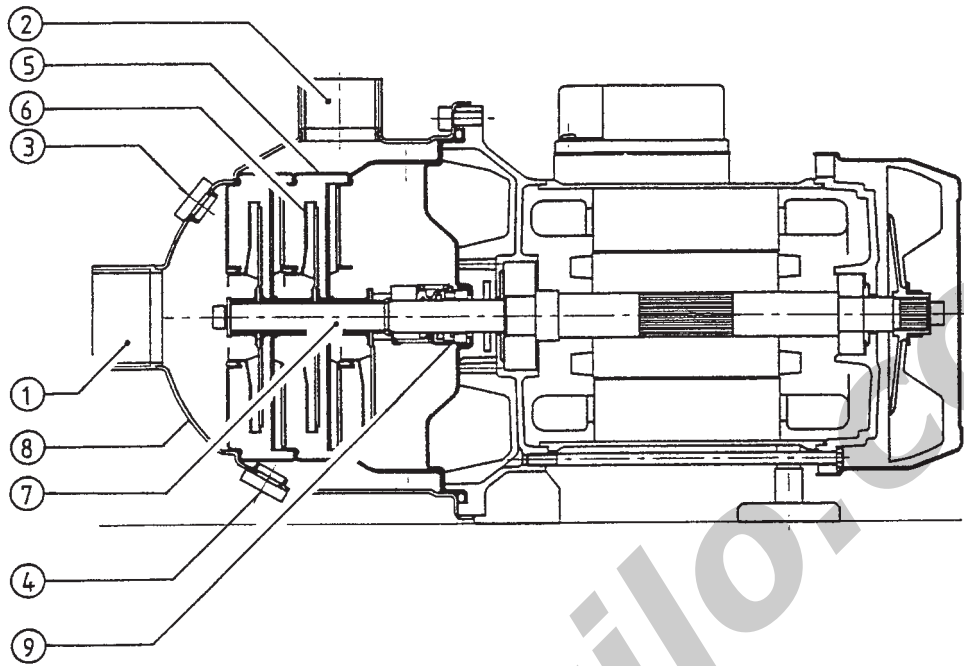

Fig. 1
**4. Description of product and accessories****4.1 Pump description (Fig. 1)**